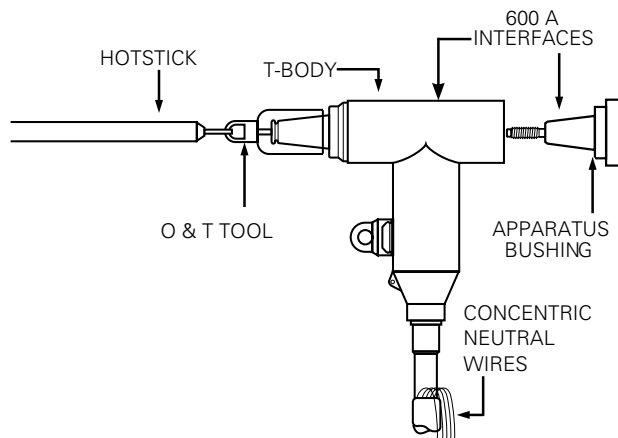

Figure 16. Line illustration of installing T-OP II T-body onto apparatus bushing
- Using hotstick, insert O & T tool into L RTP throat and engage rotating nut. (Refer to Figure 16.)